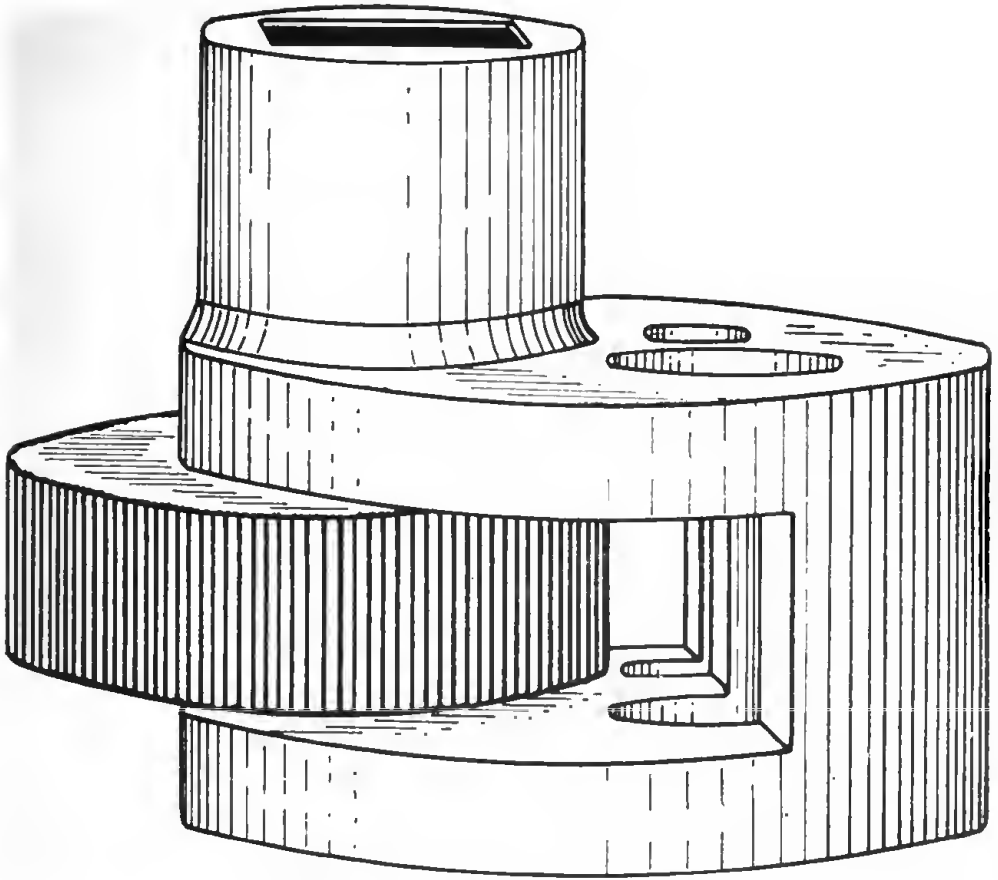
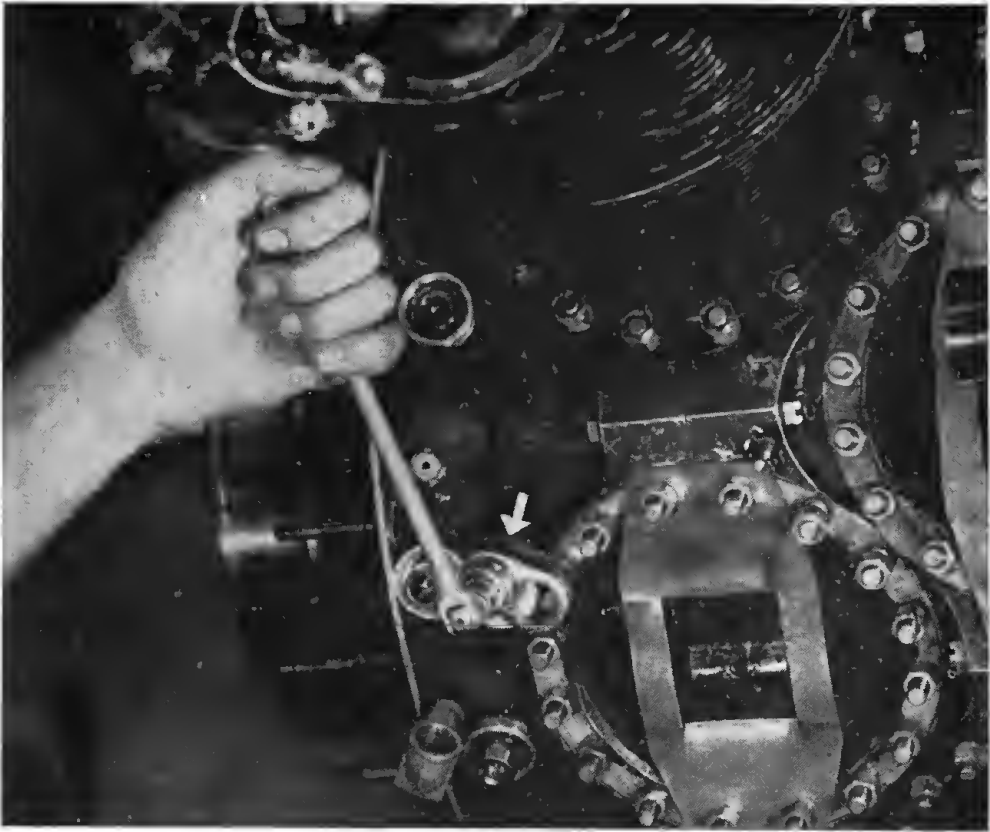

Figure 21. Stud-removing wrench.
Figure 22. Stud-removing wrench in use.
d. STUD WRENCHES. (1) A stud-removing wrench has a recess for a socket handle, a hole through which the stud fits, and an off-center, hard-steel, milled-edge wheel. (See fig. 21.) It is used to remove stud bolts. The wrench is placed on the stud. The off-center wheel is held against the stud on the proper side and torque is applied by means of a socket handle. The off-center wheel binds against the stud and the stud is removed. (See fig. 22.)